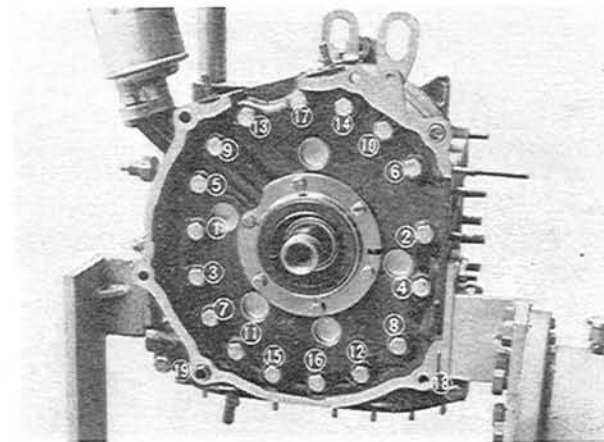

Fig. 1-89 Tightening order
2. Tighten the bolts gradually in the order shown in Fig. 1-89. The specified tightening torque is 2.5 m-kg (18 ft-lb).